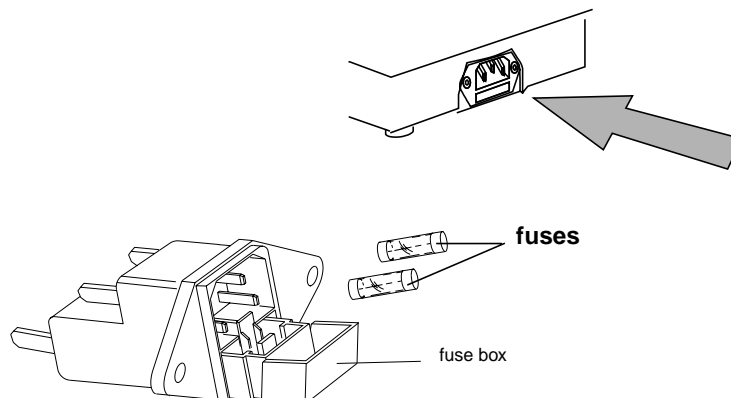

Fig. 9
- 3) remove the fuse box placed below the power inlet (fig. 9);